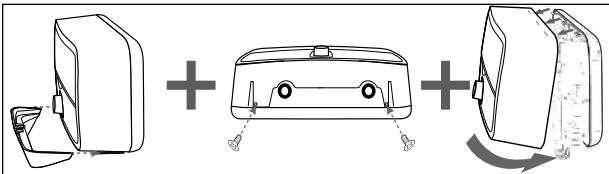

Figure 3 - Removing the Water Heater Cover
- Slide away the bottom cover and remove the knob by hand. Remove the two (2) screws attaching the water heater front cover. Remove the front cover. (Figure 3.)